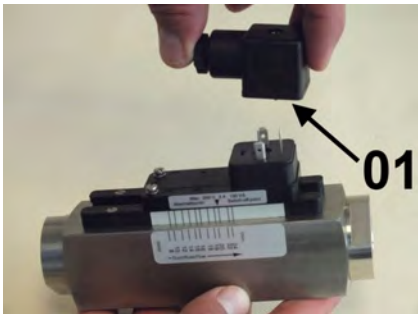

Fig. 62: Remove female socket
2. Remove the female socket and gasket (Fig. 62/01) by pulling upward.